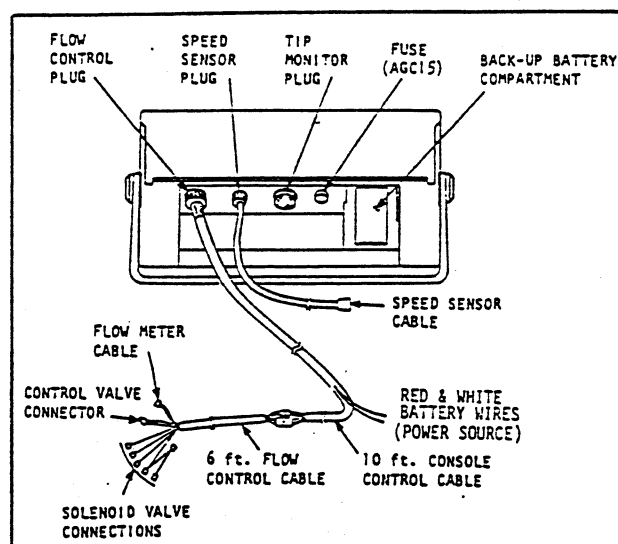

FIG. 11
- Connect the Console Control Cable (10-feet) to the plug in the back of the Console. See FIG.11. Route the Control Cable through the grommeted hole in the dash panel and connect it with the Flow Meter Cable (6-feet).
- Connect the Speed Sensor Cable into the plug in the back of the PRO-CONTROL Console. See FIG.11.